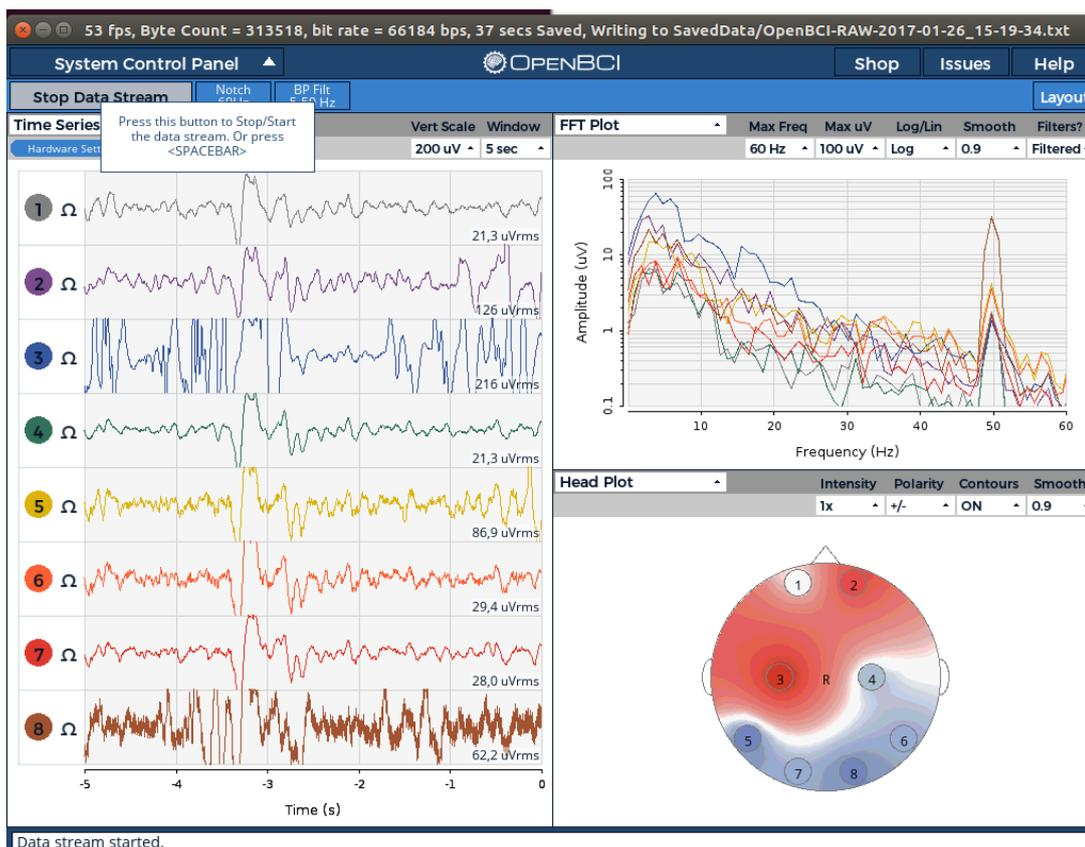

Figure 2: Display obtained by finger rubbing the board's pins.
- Press START DATA STREAM. You should see same waves on the channel plots section. Since no electrodes are yet connected you may see the word **RAILED** on the right hand size. To check that the connection is well established, gently rub your fingers over the pins. You should be able to see something as shown in Figure 2.